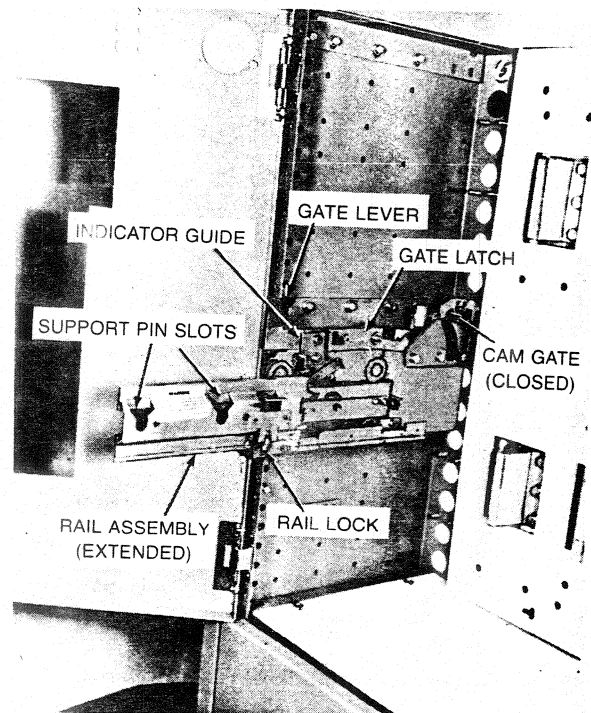

FIGURE 36. RAIL AND CAM ASSEMBLY—LEFT SIDE
1. Mechanism screw must be in full counterclockwise position, and side rails must be fully extended and latched to prevent premature pushback before positioning carriage in the rail assembly. See Fig. 36.